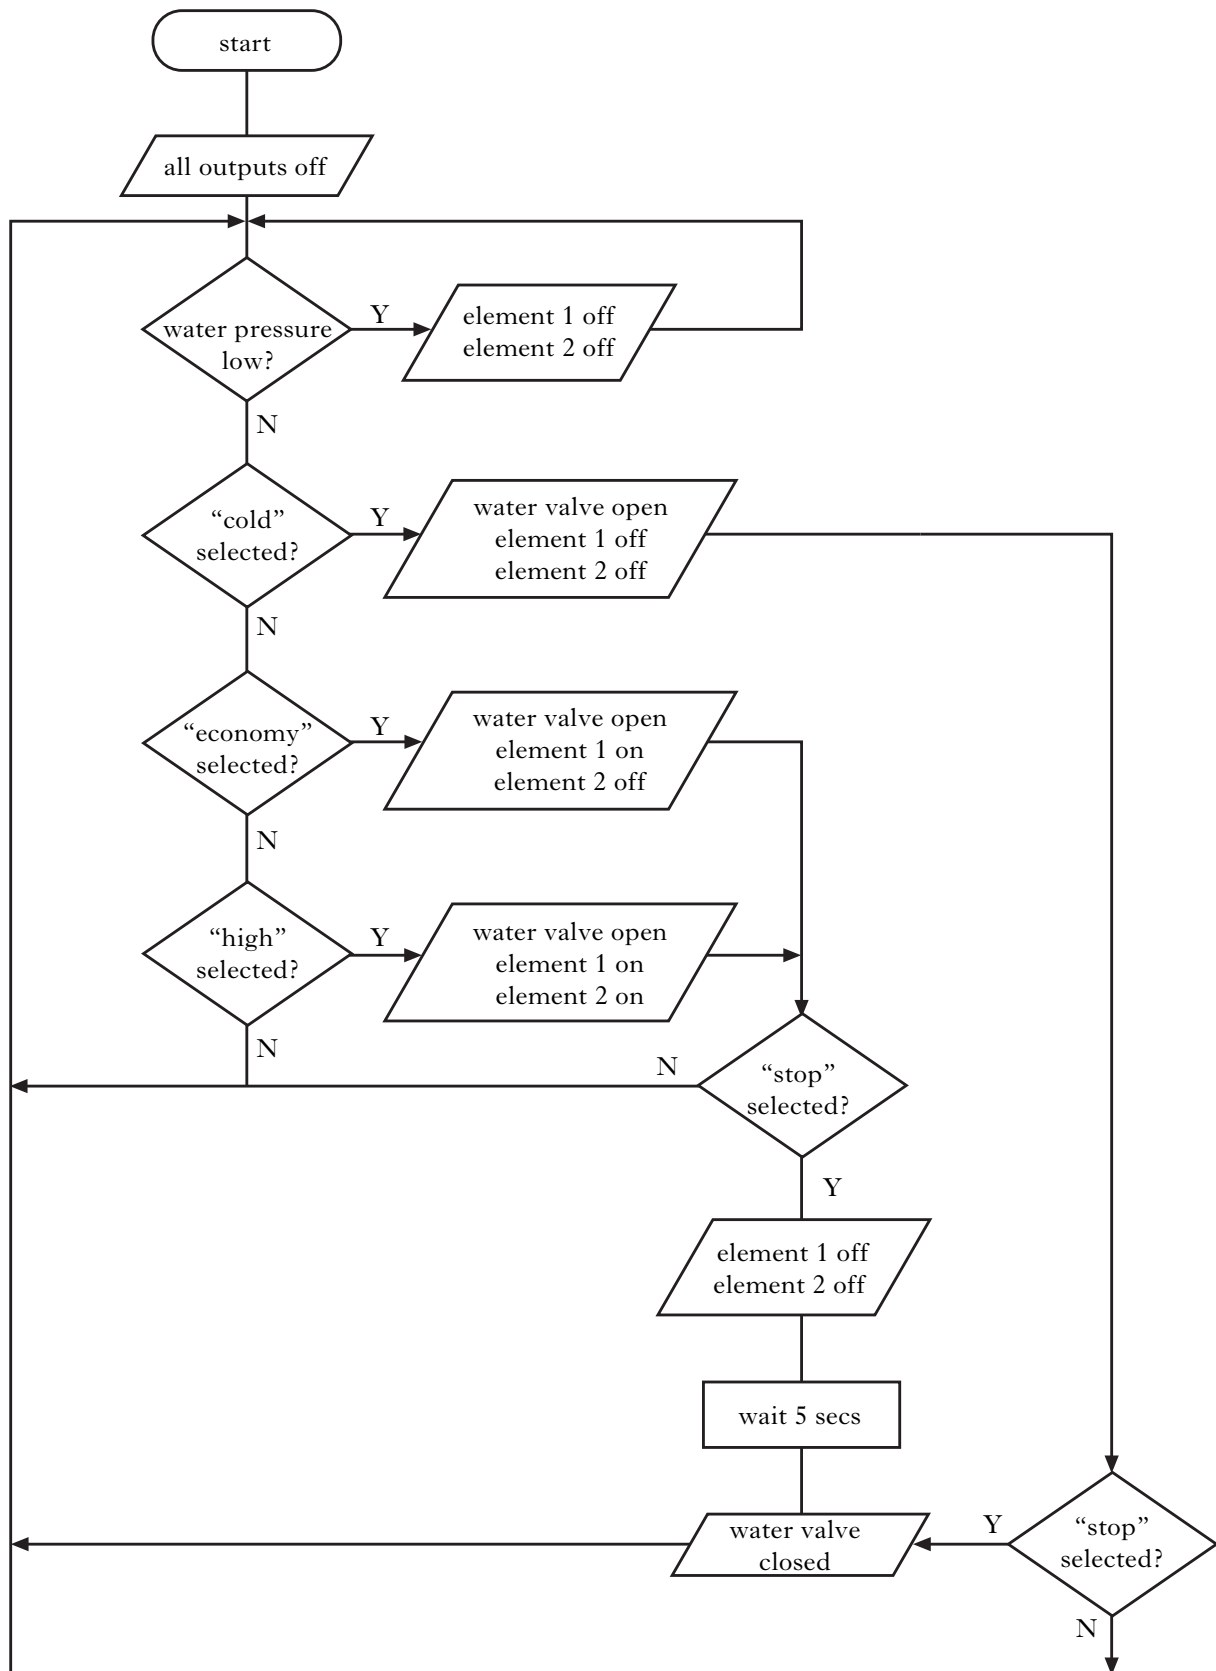

Figure Q10(a)
10. An electric shower unit has a microcontroller-based control system. The user controls the operation of the shower using four switches to select “cold”, “economy”, “high” or “stop” settings. The flowchart for the control of the shower is shown in Figure Q10(a).